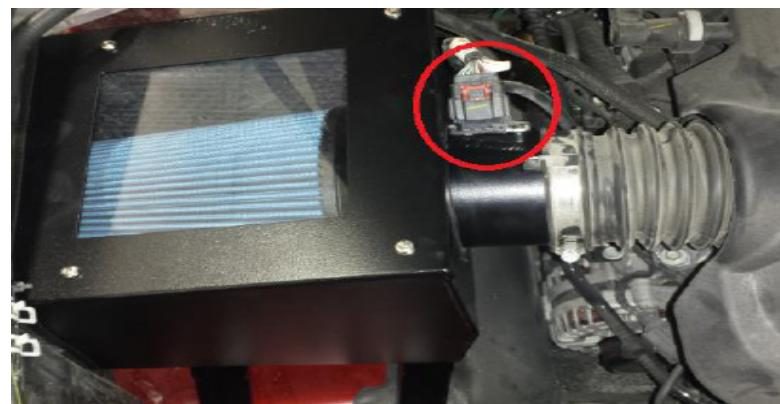

Figure 9
- Remove MAF sensor from factory airbox cover and install into new MAF Tube. Plug in the MAF sensor. Kit installation should be complete as shown in Figure 9.